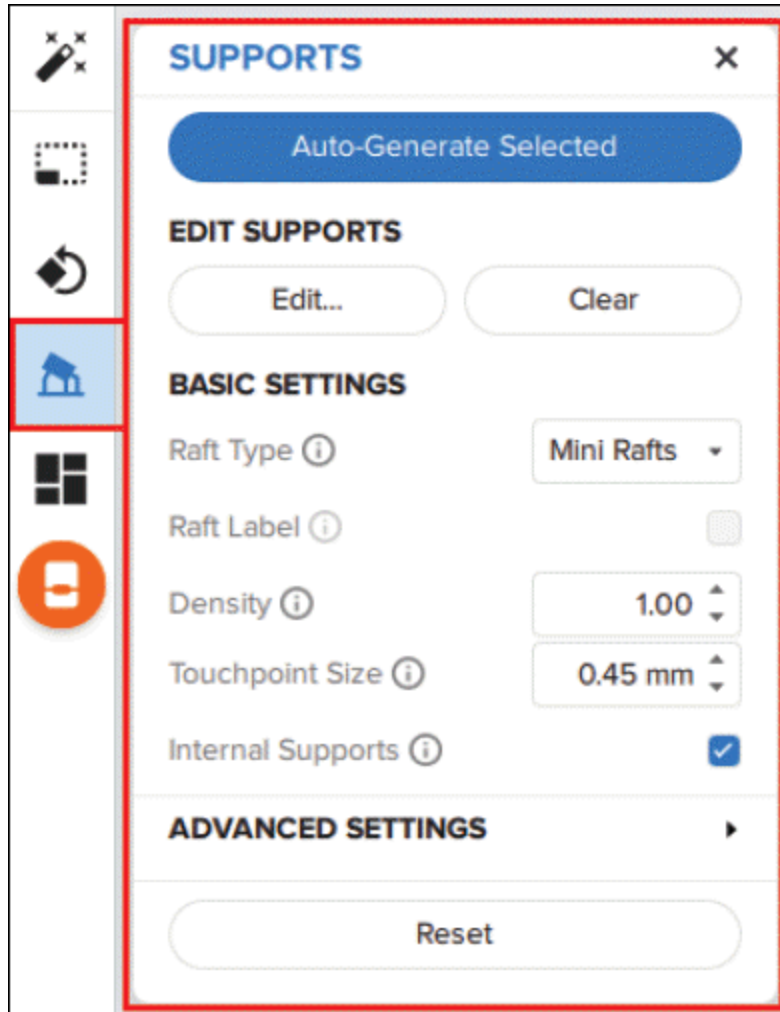

Figure-57. SUPPORTS toolbox
- Click on the **Supports** tool from the **Toolbar** or press **C** from keyboard. The **SUPPORTS** toolbox will be displayed; refer to Figure-57.